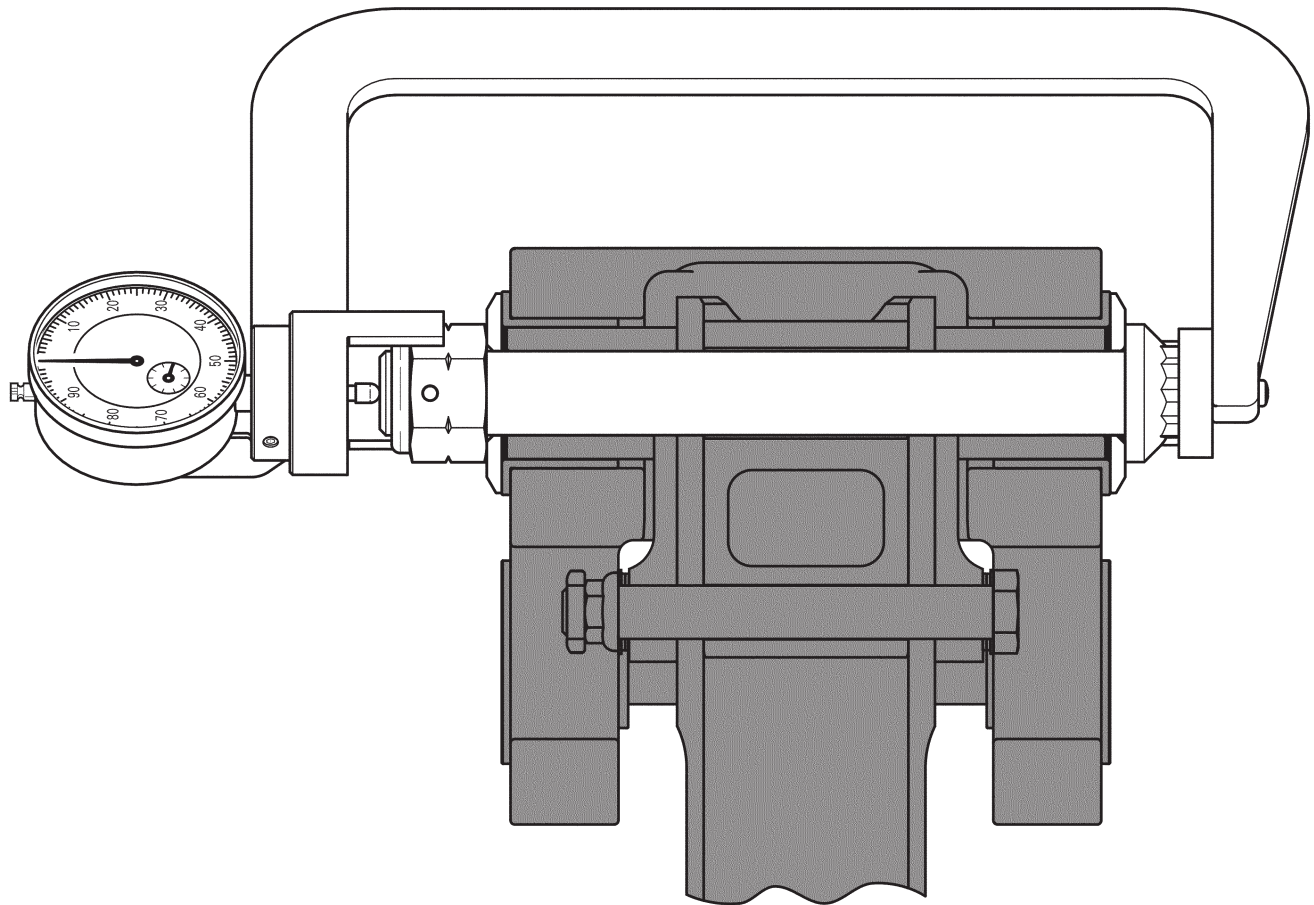

FIGURE 28-2 MEASURING BOLT STRETCH (SHOWN ON TEETER BOLT, BLADES REMOVED)
8. Refer to Figure 28-2. Install MT122-6 main rotor bolt stretch tool on hinge bolt. Zero dial indicator by rotating dial face and lock dial. Remove tool.
5. Refer to Figure 28-2. Install MT122-6 main rotor bolt stretch tool on teeter bolt. Zero dial indicator by rotating dial face and lock dial. Remove tool.